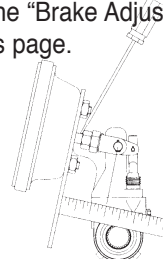

Figure 6 - Free Stroke
4. Free stroke is the amount of movement of the brake adjuster arm required to move the brake shoes against the drum. With brakes released, measure from the face of the chamber to the center of the clevis pin. Use a lever to measure the movement of the brake adjuster until the brake shoes contact the drum (Figure 6). The difference between the released and applied measurements is the free stroke. The free stroke should be 3/8" - 5/8".